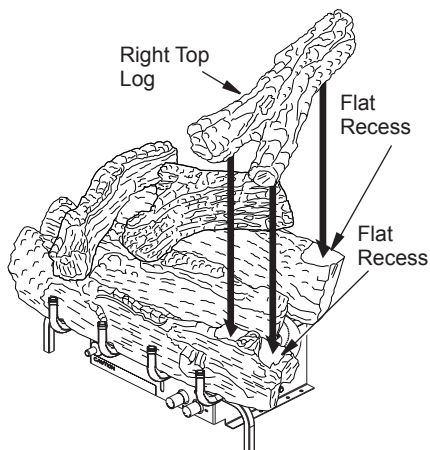

Figure 22 - Installing Right Top Log for 24" and 30" Log Set
6. For 24" and 30" models: Place the right top log as shown in Figure 22. This log will fit on the matching flat recess on the front, middle, and rear logs.